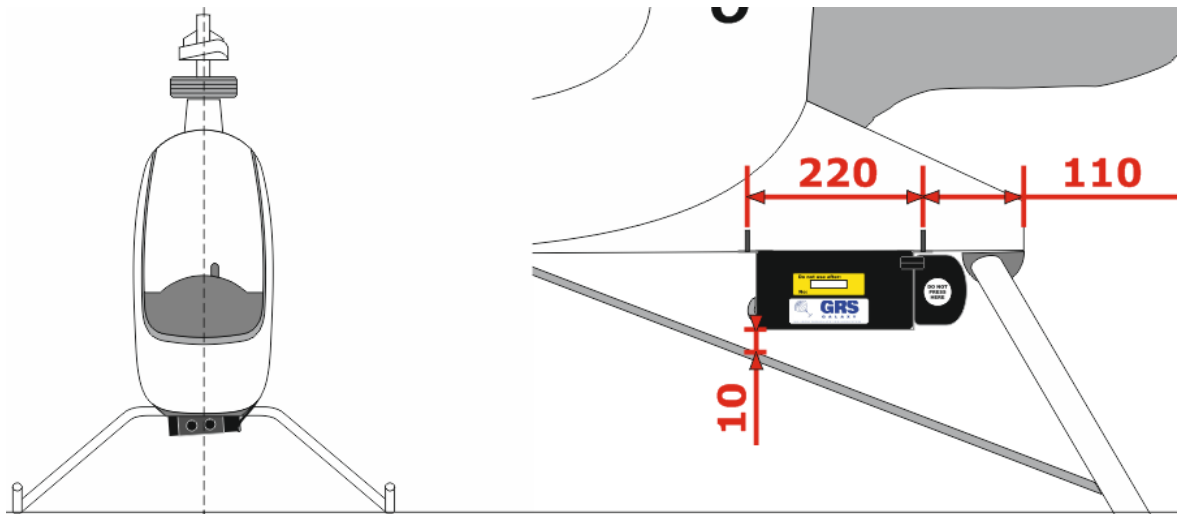

**Figure 3**
- 1) After unpacking you first **unscrew the safety B** from the rear of the rocket cover **but leave the needle - safety A and the red little flag attached until the system is installed!!!** (Figure 3)